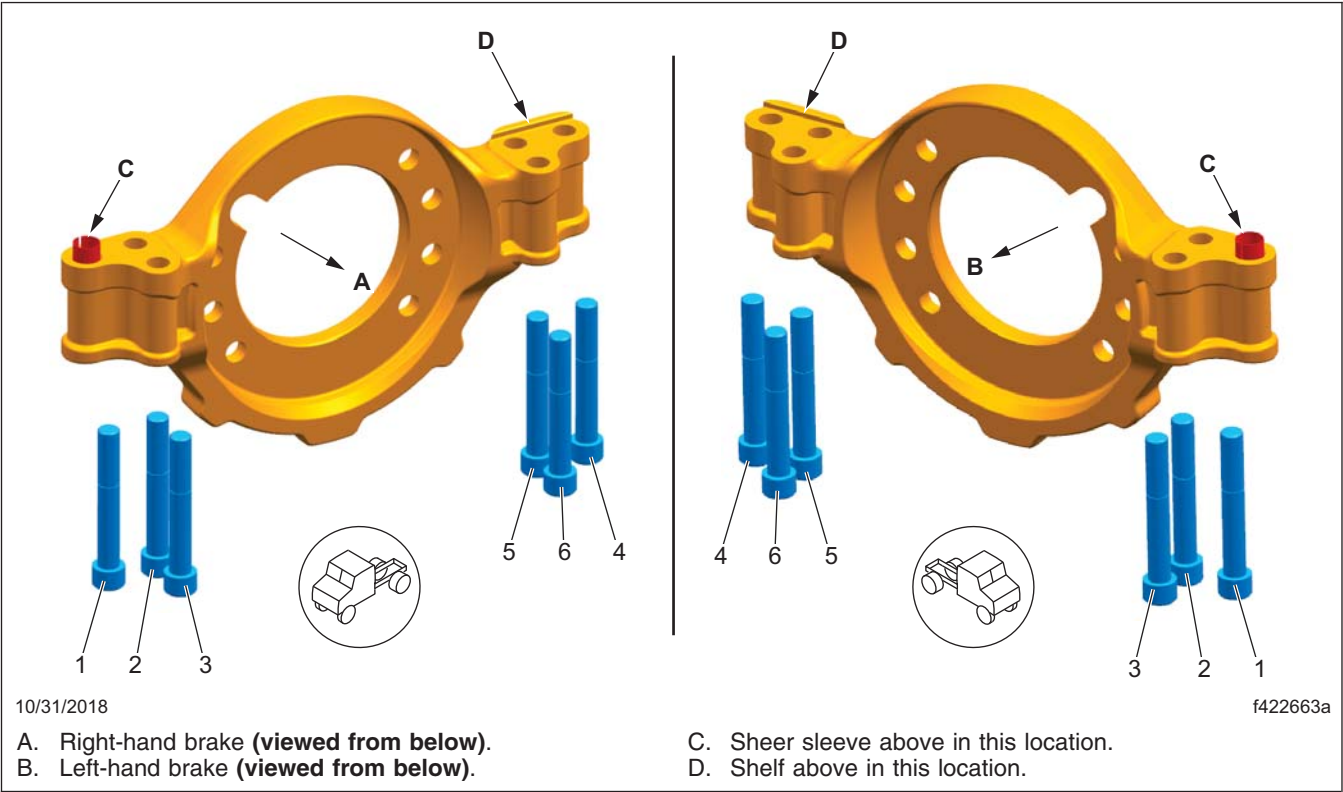

Fig. 14, Bendix Radial Mounted Caliper Tightening Pattern (viewed from below)
6. Set a torque wrench to 200 lbf·ft (271 N·m) and tighten the caliper mounting bolts following the tightening pattern shown in **Fig. 14**. If they do not turn, no further work is needed. If they turn, take the vehicle to an authorized Freightliner dealer to have all of the caliper bolts on that wheel end replaced.